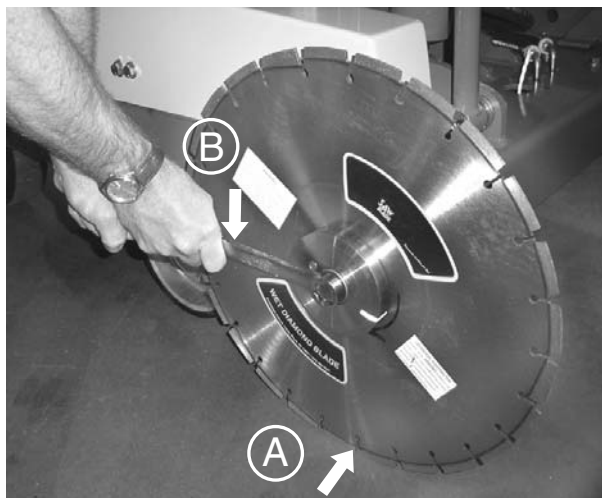

Figure 13. Torque Flange Bolt
7. Lower the blade to the ground surface (Figure 13, Item A) to prevent blade from spinning and tighten the mounting bolt to 125-175 ft. lbs. (169.5-237.3Nm) of torque (Figure 13, Item B).